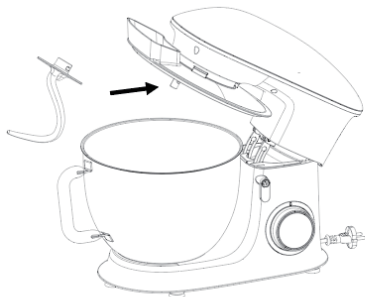
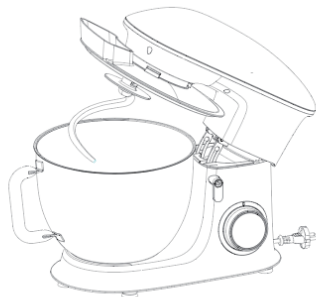

FIG4
FIG5
4. Mount the required utensil (Dough hook or Beater or Whisk) by inserting the top into the output shaft, and turn anti-clockwise until it locks into place. (FIG4&FIG5)